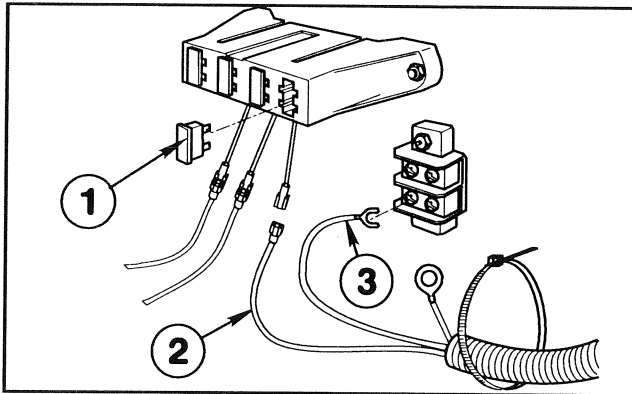

FIG. 5
11. Route Harness to Fuse Block under Operator Seat. Connect power and ground wires as shown in FIG. 5